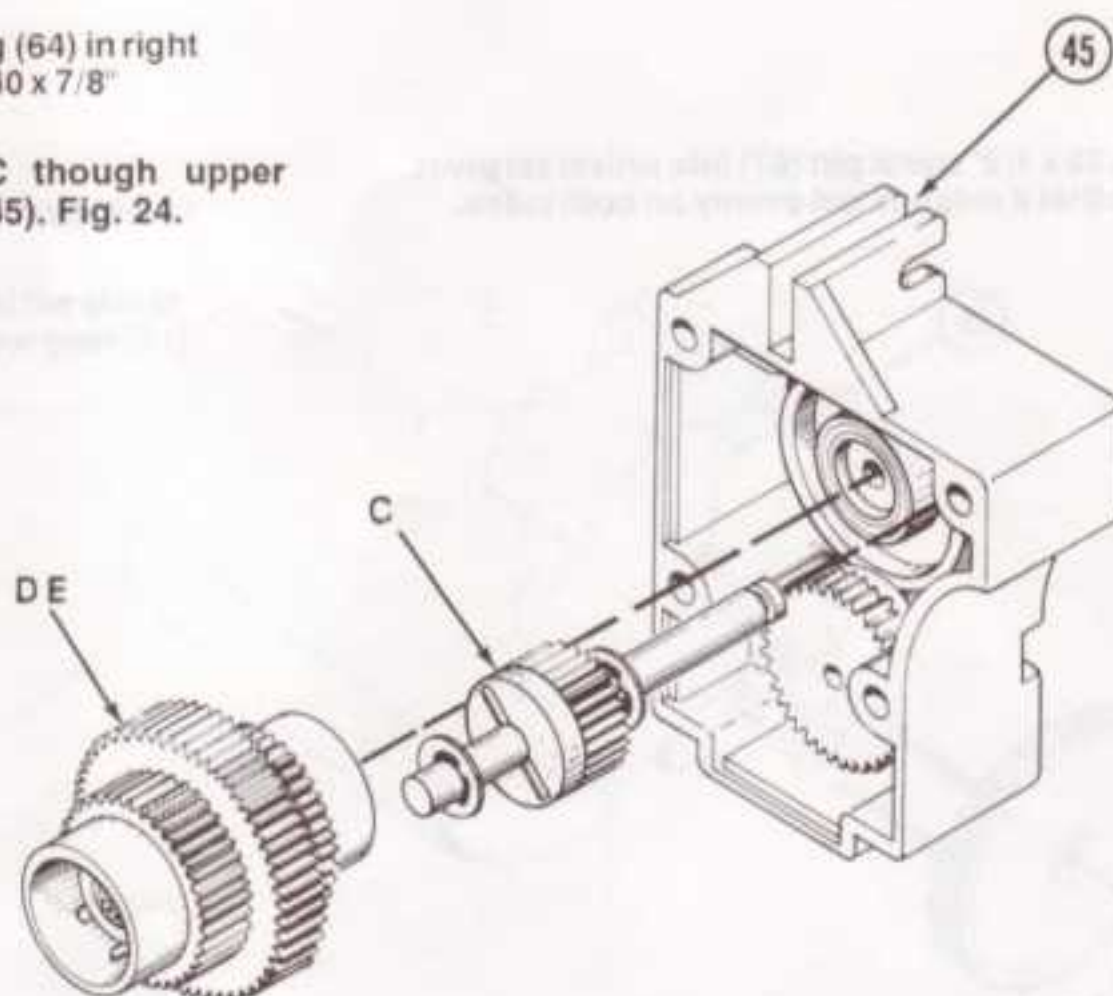

FIG. 24
29. Place differential onto center bearing (64) in right half of gearbox so that the head of the 5-40 x 7/8" shoulder screw (57) is exposed. Fig. 24.
30. Slide long side of assembly C through upper bushing (62) in right half of gearbox (45). Fig. 24.